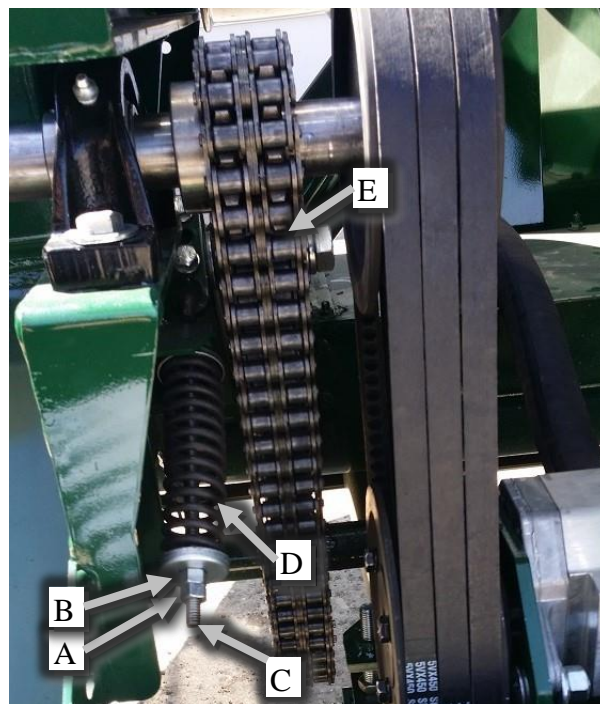

Figure 47 - Drive Chain Adjustment (Shield Removed for Clarity).
Adjust the tension of the main drive chain by doing the following steps (see Figure 47). Make sure the chain deflection is 1/2 inch total at the longest span.
- Loosen locking nut "A" (see Figure 47). Adjust nut "B" on j-bolt "C" to compress spring "D" increasing the tension of roller "E" (hidden behind chain) on chain.
- Adjust bolt "A" (Figure 47) until the proper chain deflection is achieved.